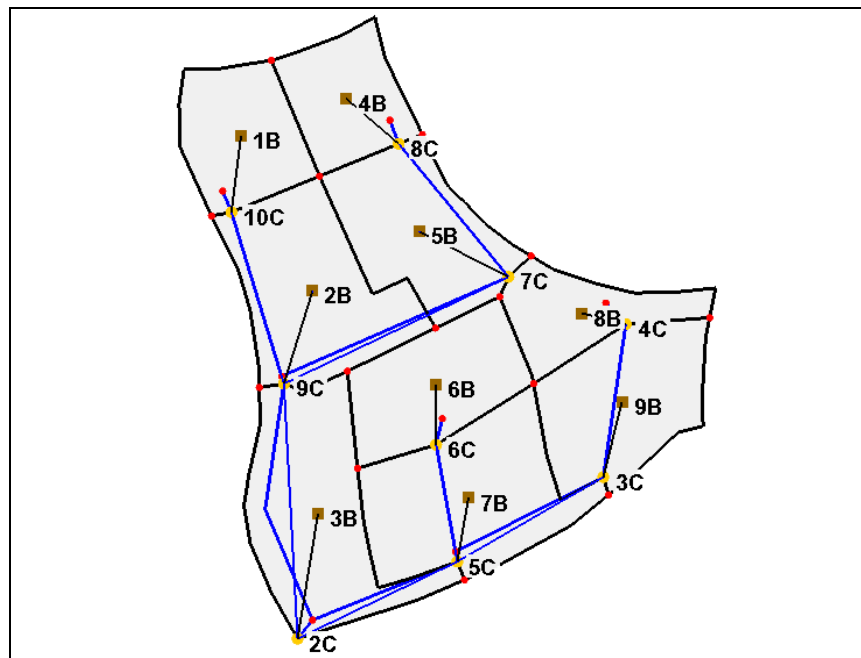

Figure 7 Drainage basins
2. Using the **Select Basin** tool, double-click on basin 1B (see Figure 7) to open the *Rational Method* dialog.
5. Repeat steps 2–3 for each of the other basins (refer to Figure 7 for the basin IDs), using the table below to enter the T_C for each.